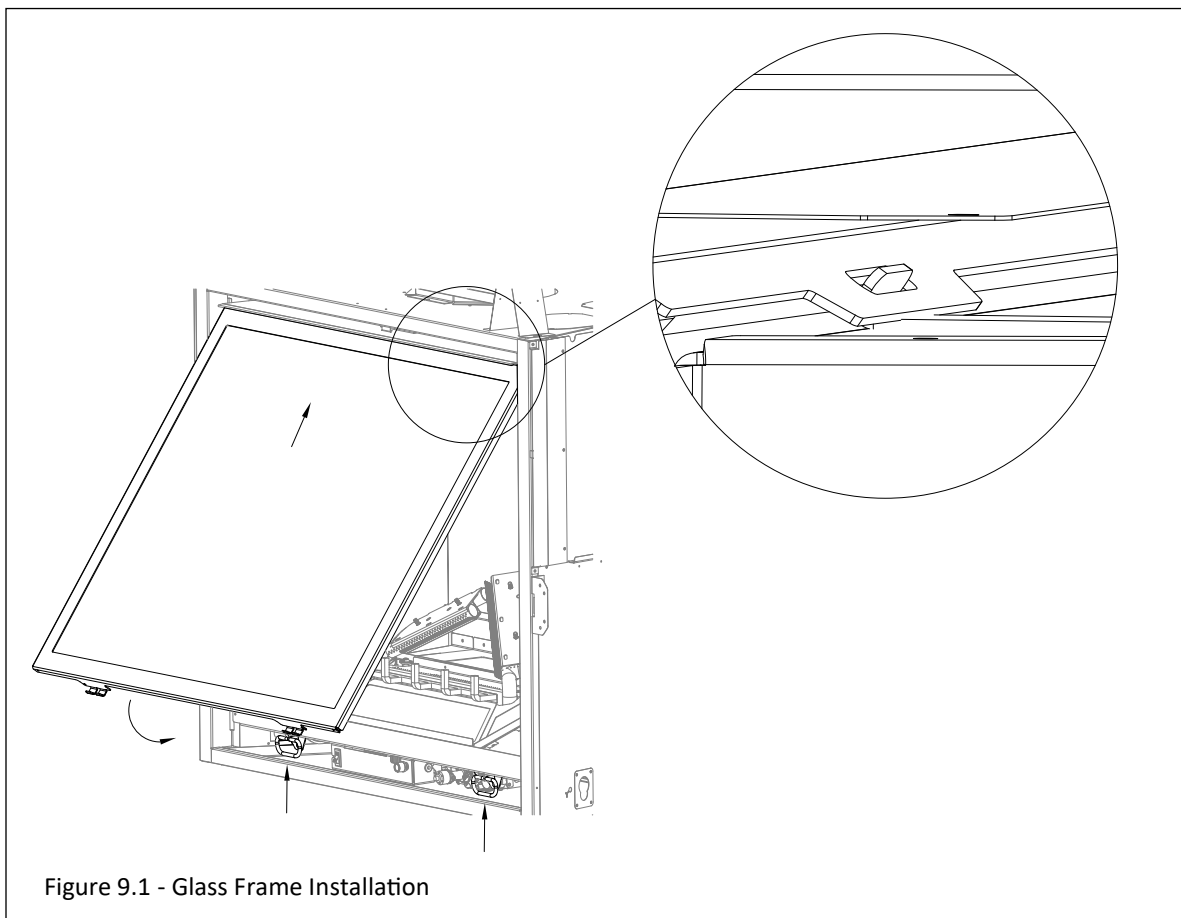

Figure 9.1 - Glass Frame Installation
1. Tilt the top of the glass frame assembly as shown in Figure 9.1. Align the slots on top of the glass assembly over the tabs at the top of the firebox while lowering the bottom of the glass assembly into position.